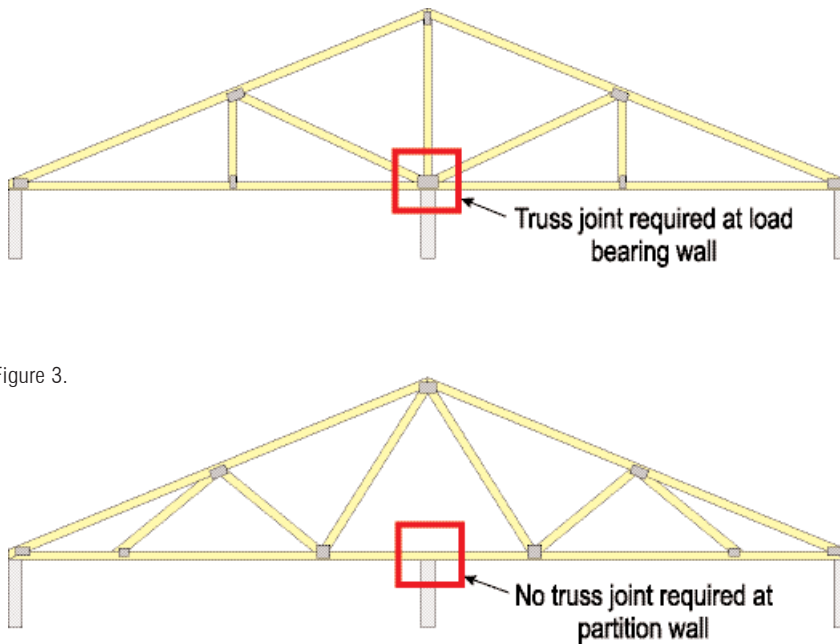

Figure 3.
3. Does the roof truss have a metal plate connected joint located at the point where it bears on the wall? (See Figure 3.)